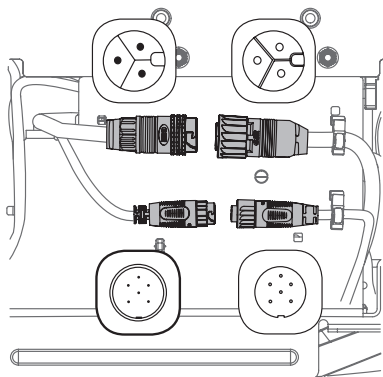

Figure 39
2. Disconnect the deck motor(s) from the adapters on the underside of the tractor. Rotate the connectors 1/4-turn counterclockwise and pull down (Figure 39).